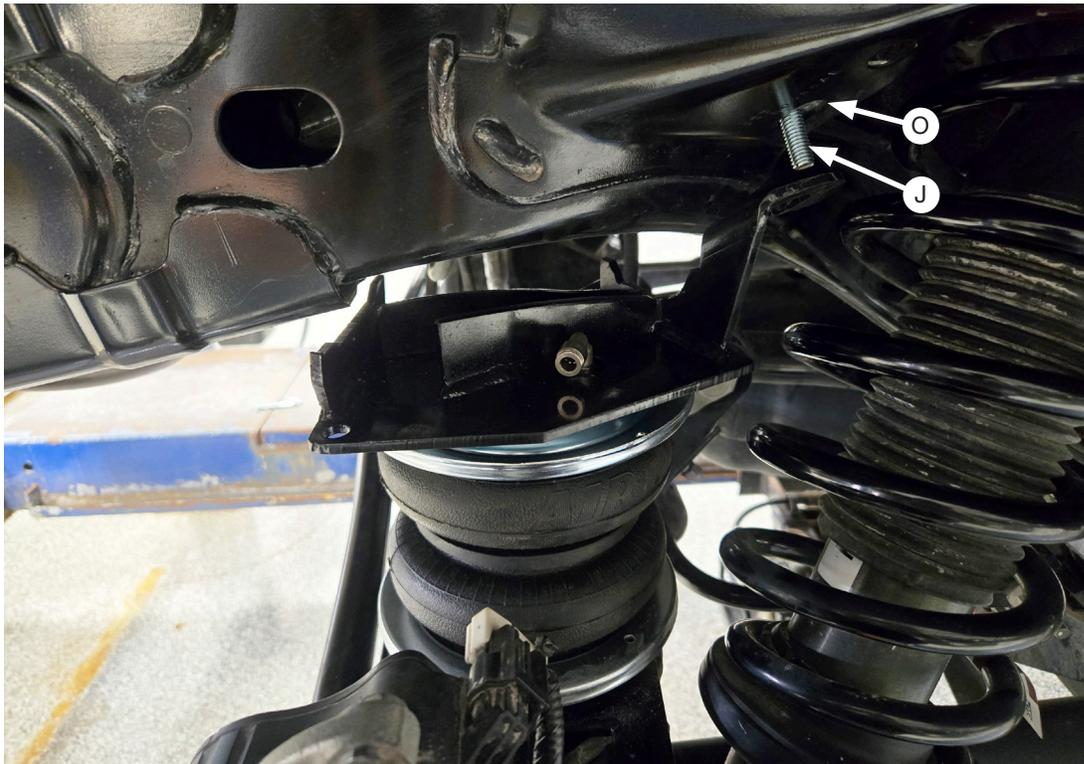

Fig. 13
2. From the back of the vehicle, set the left-hand and right-hand assemblies into position under the frame above the axle (Fig. 13). The assemblies will need to be lifted over the brake assemblies and then lowered into place. At this time, install the large 3/8" flat washer (O) onto a 3/8-16 X 1" hex-head bolt (J) and place the bolt through the oval hole above the slot in the upper bracket.